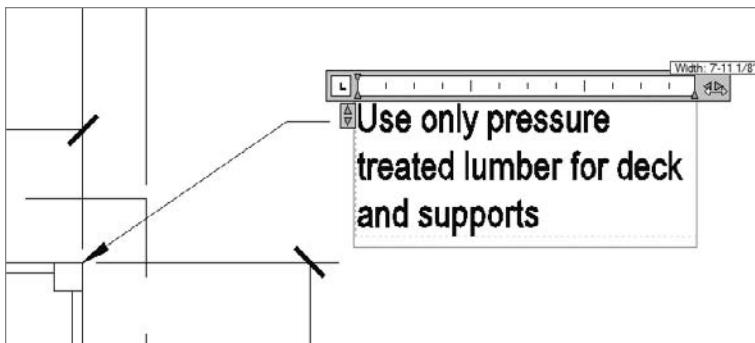

FIGURE 12.49 Adjust the width of the multiline text object.
5. Enter Use only pressure treated lumber for deck and supports, and then drag the right arrow near the text to adjust the width of the multiline text object, as shown in Figure 12.49. Click a blank spot in the drawing area to complete the text and return to the Annotate tab.